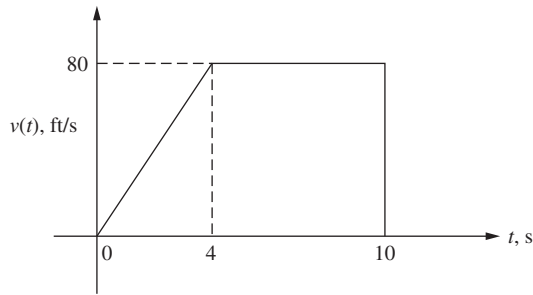

Figure P9.3 The velocity of an object.
- 9-3.** The velocity of an object as a function of time is shown in Fig. P9.3. The acceleration is constant during the first 4 s of motion, so the velocity is a linear function of time with $v(t) = 0$ at $t = 0$ and $v(t) = 80$ ft/s at $t = 4$ s. The velocity is constant during the last 6 s.